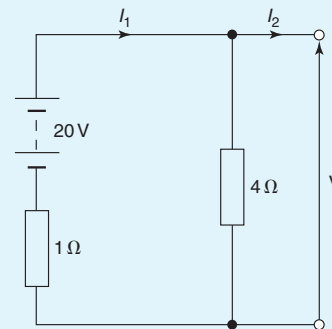

Figure 13.97
13. For the circuit shown in Fig. 13.97, voltage  $V$  is:
14. For the circuit shown in Fig. 13.97, current  $I_1$  is:
15. For the circuit shown in Fig. 13.97, current  $I_2$  is: